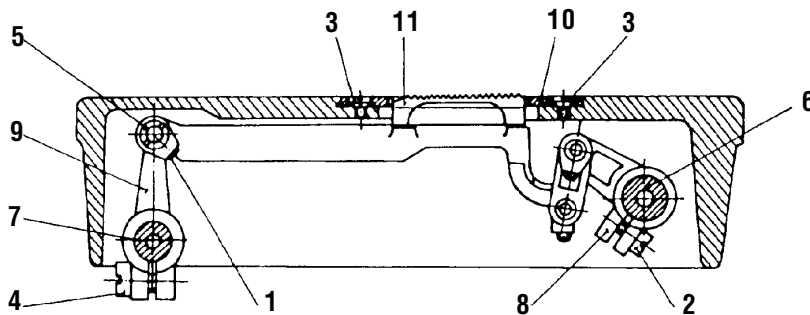

Fig. 1
3. Setting of the feeder height above the throat plate (Fig. 1, 2, 3)
5. Mounting of the throat plate (Fig. 1)
6. Setting of the elliptical path of the feeder (Fig. 1)